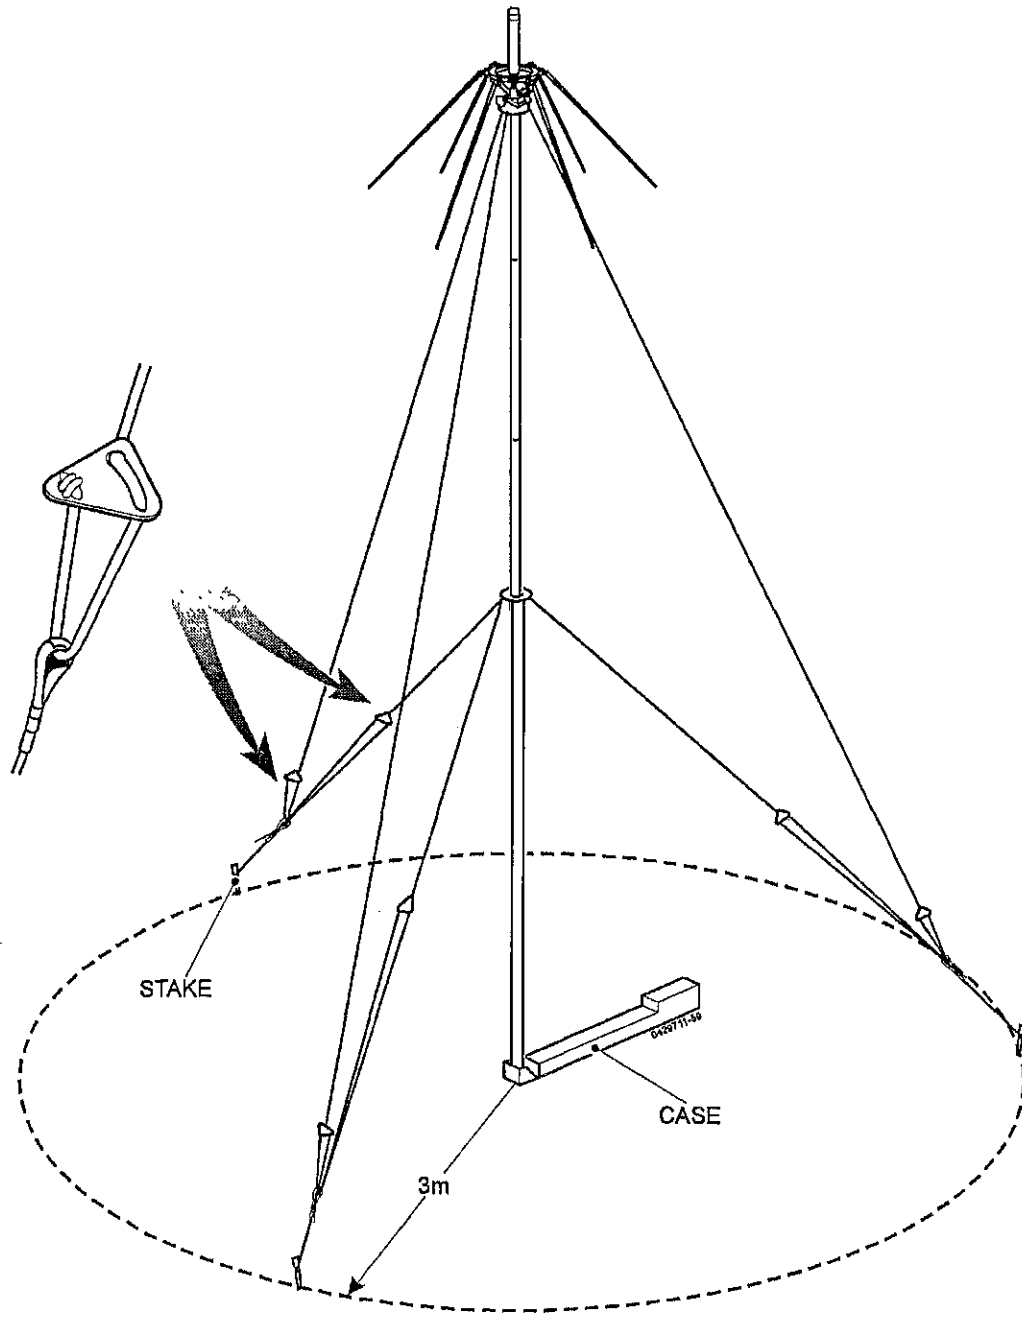

Fig 28 5.4 m mast erection
98.4 Refer to Fig 28 and erect the mast as follows: